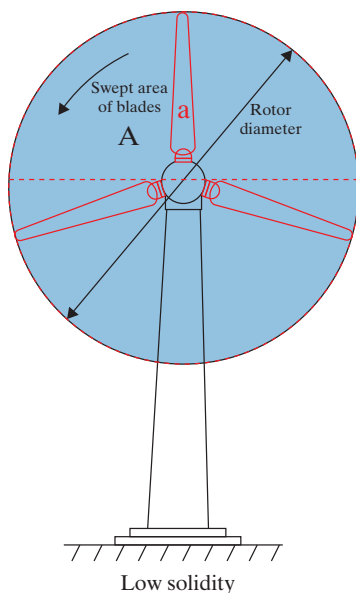

FIGURE 13.43
- The *sweep area* of the blades is shown in Figure 13.43. The sweep area is equal to the area of the circle through which wind moves; sweep area = $\pi(\text{blade length})^2$.
- **Rotor solidity** is the ratio of the total rotor platform area to the total sweep area. Low solidity results in high speed and low torque, whereas high solidity (values greater than 0.8) results in low speed and high torque (see Figure 13.43).